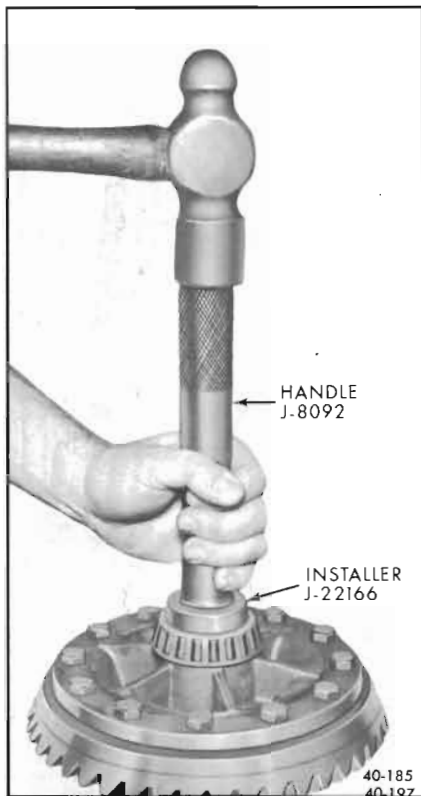

Figure 40-197—Installing Differential Side Bearing
2. If a differential side bearing was removed, drive new bearing onto case using Installer J-22166 as shown in Figure 40-197.